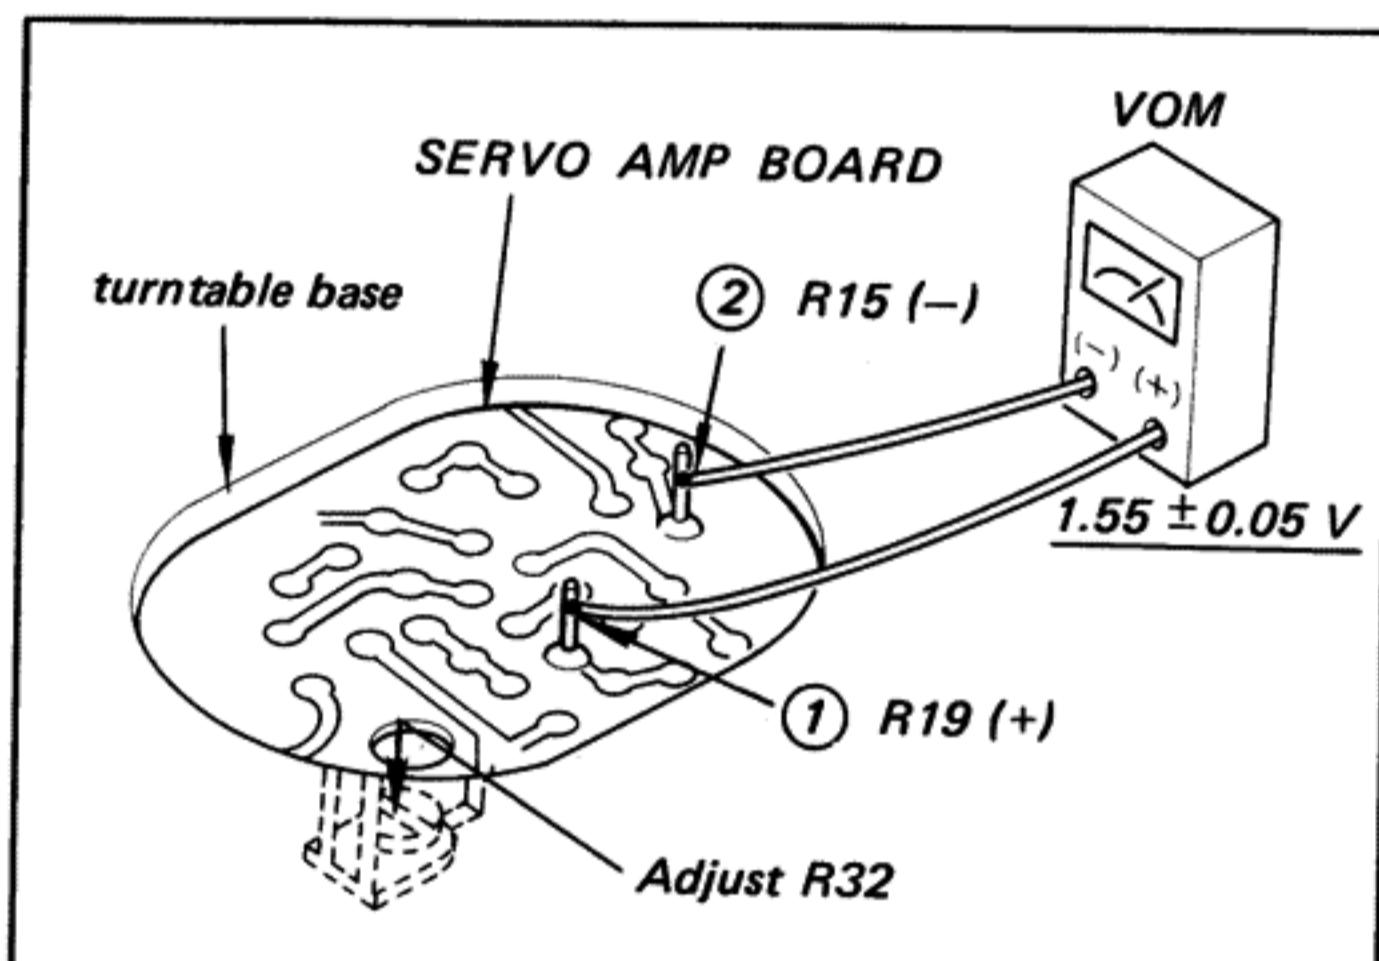

Fig. 3-8. Trigger level adjustment
5. Connect the positive side of VOM to R19 ① and the negative side to R15 ② as shown in Fig. 3-8.
6. Adjust R32 (See Fig. 3-8.) so that the VOM reads $1.55 \pm 0.05 \text{ V}$.